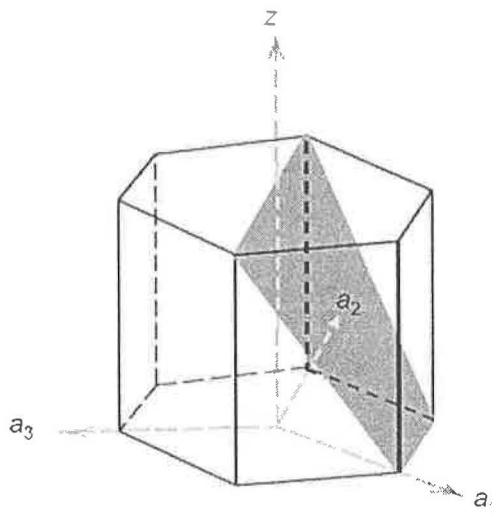

Figure 1
- c) Determine the Miller-Bravais indices for the plane in Figure 1 below: